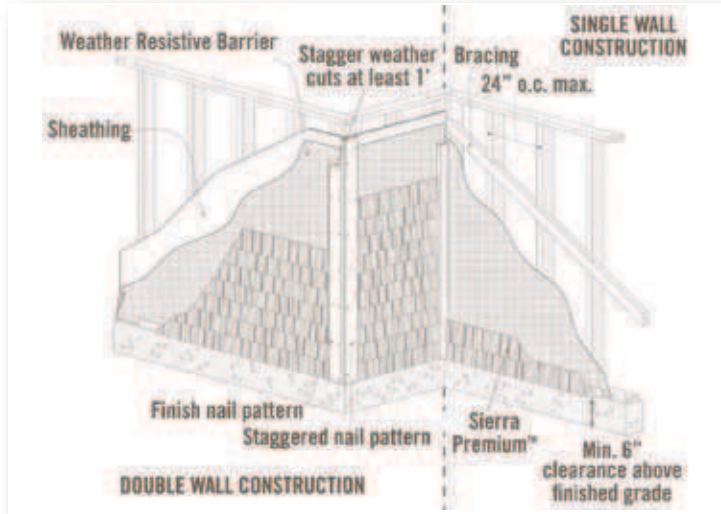

Fig. 12.1
- Sierra Premium™ Shake and Smooth boards can be installed directly on braced wood construction spaced at a maximum of 24" o.c. or over sheathing with vertical solid wood backing. Please contact Nichiha regarding installation over steel frame construction. (Fig. 12.1)